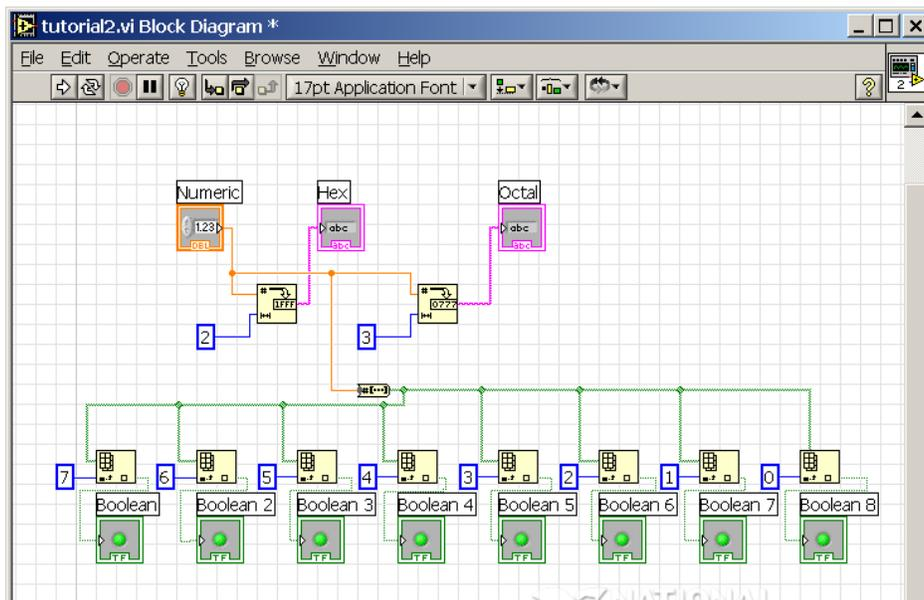

Figure 5
- Switch over to the block diagram view. We now need to add in several objects which will allow for array indexing in order to turn on the various LEDs. Under the Numeric -> Conversion section of the Functions palette select the Number to Boolean Array object and insert it. This simple object converts our numeric input into a Boolean array that we can then index. The next object we need will allow us to access the individual items of the array. In the Functions palette, select the Array -> Index Array object and insert 8 of them, one for each LED. A numeric constant must also be introduced for each Index Array object in order to specify the indexed item. Once you have inserted all of the objects, they should be connected as shown in Figure 5.